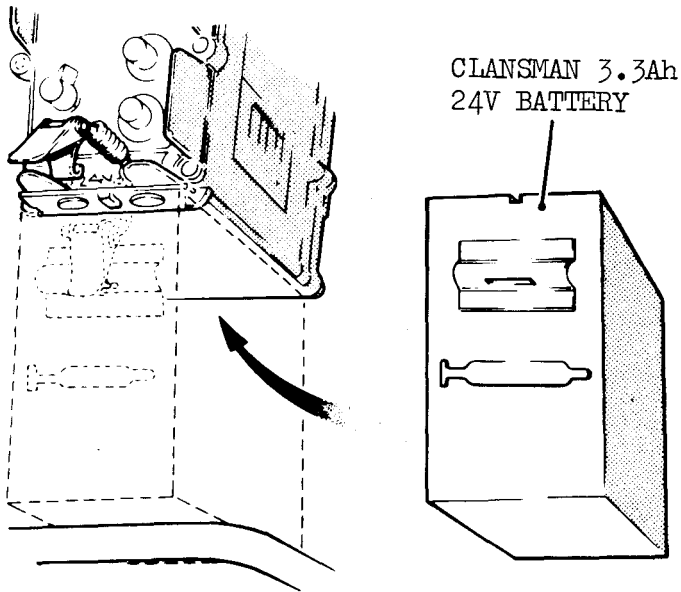

Fig.4a Fitting Battery
2.3 Connecting battery to RT320/1 (Fig.4a & b). Proceed as follows:-